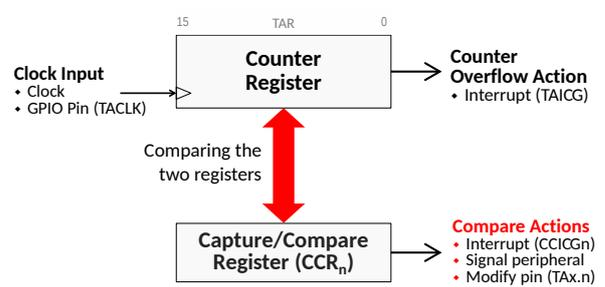

Figure 14: Output compare functionality of a timer.
- **Output compare:** Figure 14 shows the output compare feature. At every incrementation of the counter register, the counter value is compared to the compare register. Certain conditions (e.g. equality) can trigger an event such as a timer interrupt, sending a signal to a peripheral or modifying a pin.